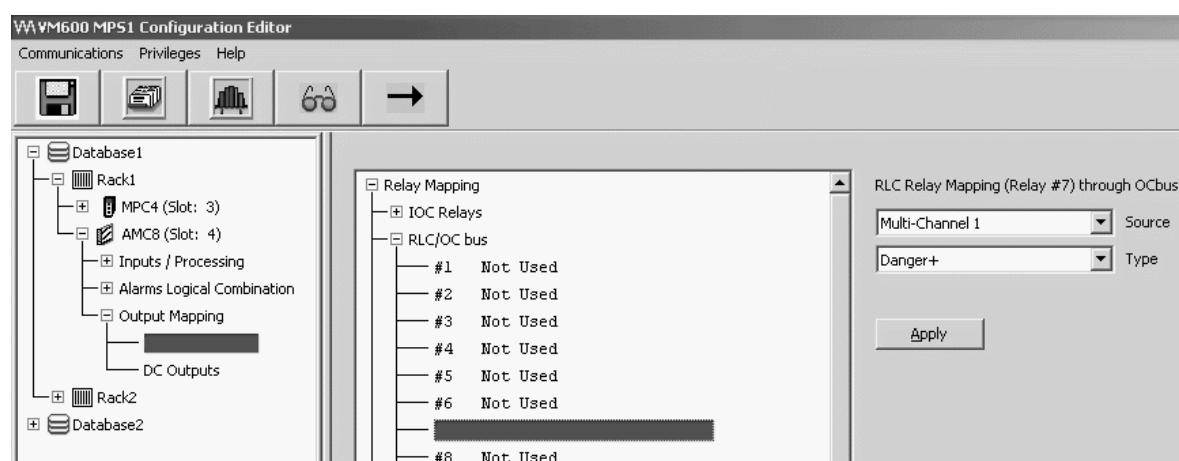

Figure 10-13: VM600 MPS software window to configure the OC Bus
- 4- Using the VM600 MPSx software, select the **Discrete Outputs** node (a child of the **Output Mapping** node) in the tree structure (left). Then expand the **RLC/OC bus** node in the main window (right) and select the relay in question (between 1 and 16). See Figure 10-13.
The user must then use the VM600 MPSx software to select Relay 7 from the 16 relays available in the **RLC/OC bus** node. Then, the Danger+ alarm for Multi-Channel 1 can be assigned to this relay (see Figure 10-13).